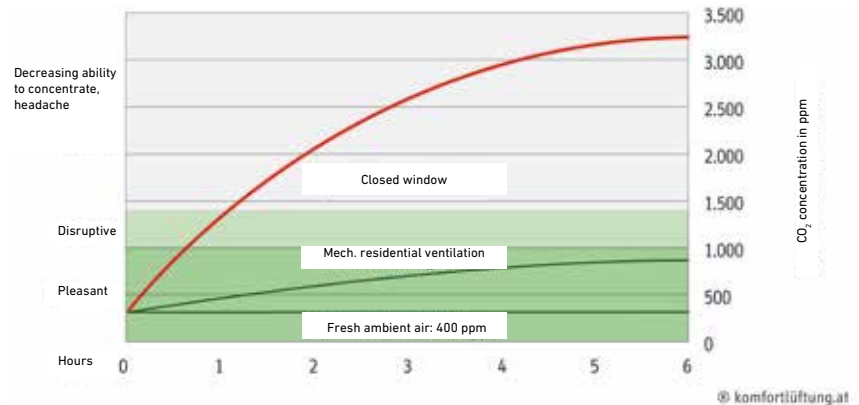

Figure 1: Schematic diagram showing the increase in CO2 concentration in a flat/room with occupants with and without mechanical ventilation.
**CO2 concentration-based control (Figure1)**